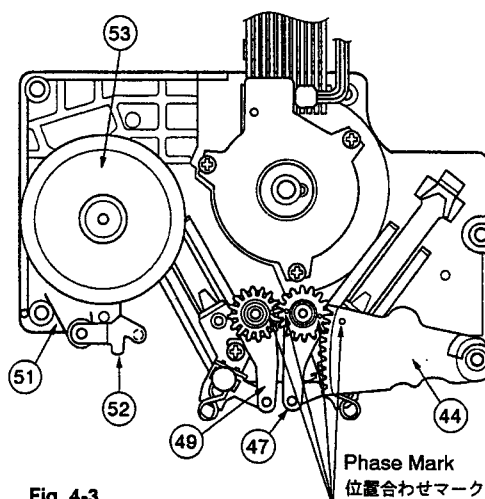

Fig. 4-3
• See that the phases of ④④, ④⑦, and ④⑨ are matched with each other, as shown in Fig. 4-3.
2. ③⑤ Sensor Block
• ④④, ④⑦, ④⑨の位相はFig. 4-3を参照。